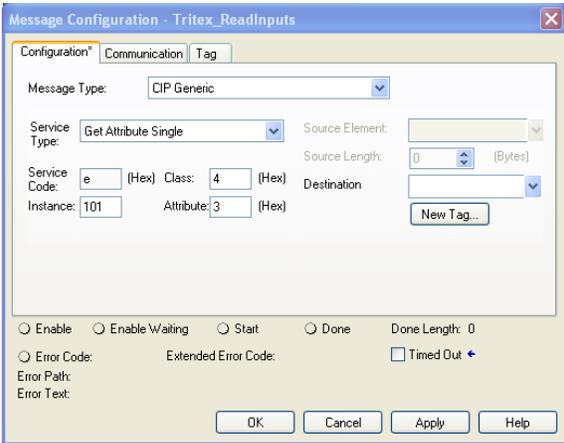

Figure 25 – Get Message Configuration Properties
- Configure Message Configuration parameters. See figure 25.